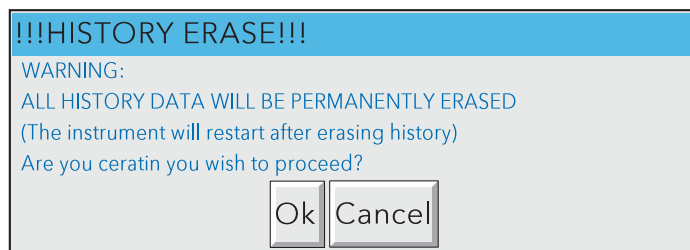

Figure B8.2 Confirmation dialogue box
2. Operate the 'Ok' button in the dialogue box (figure B8.2). This initiates the erasure of the recorder's history files, after which the recorder restarts.